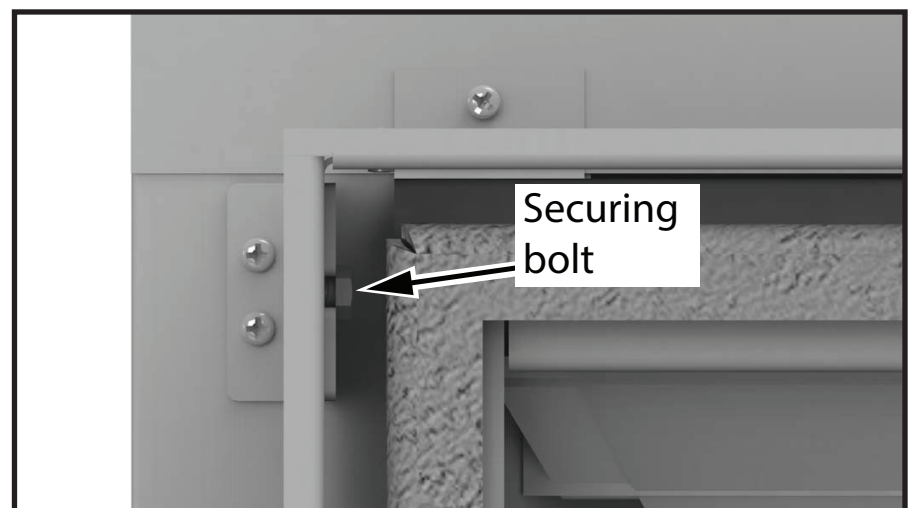

Figure 20: Lintel securing bolt.
3. Loosen the securing bolts in the upper and lower corners on each side of the lintel and remove the lintel. Rotate the assembly to have the desired edge away from the fireplace (Figure 20).
6. Tighten the securing bolts (Figure 20).